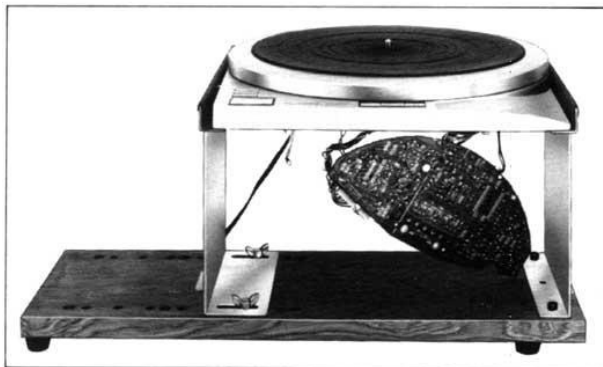

Fig. 22
**Repair of drive circuit and logical circuit (Figs. 22 and 23.)**